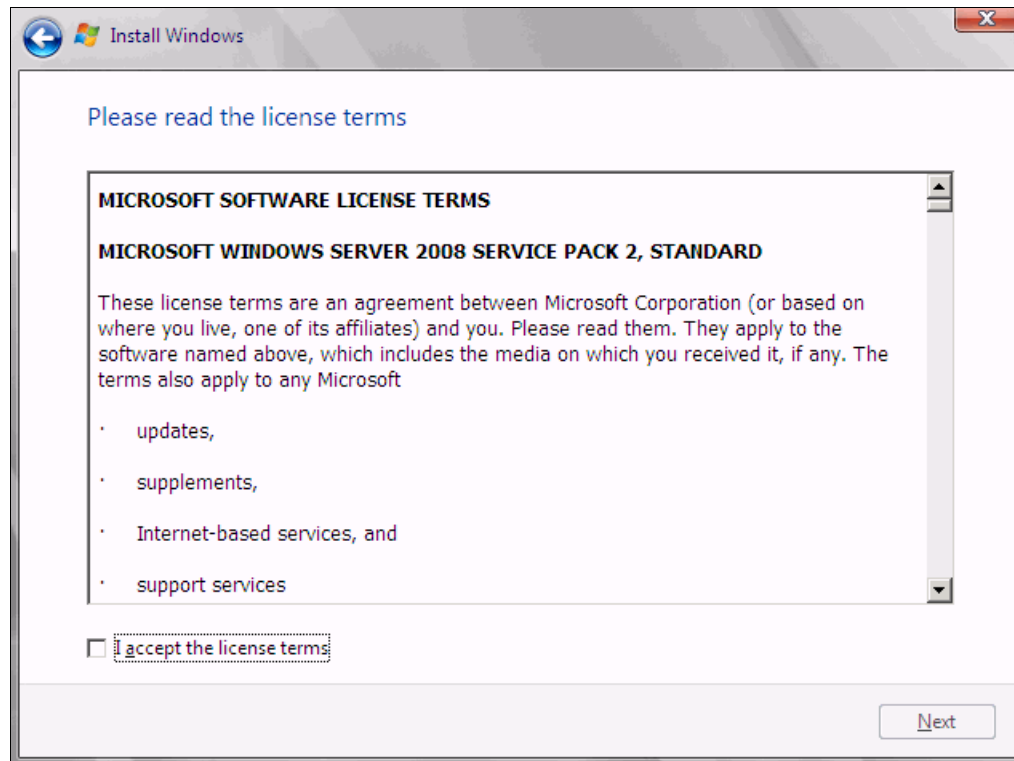

Figure 9-107 License agreement window
14. Read the license agreement, select **I accept the license terms**, and click **Next** (Figure 9-107).